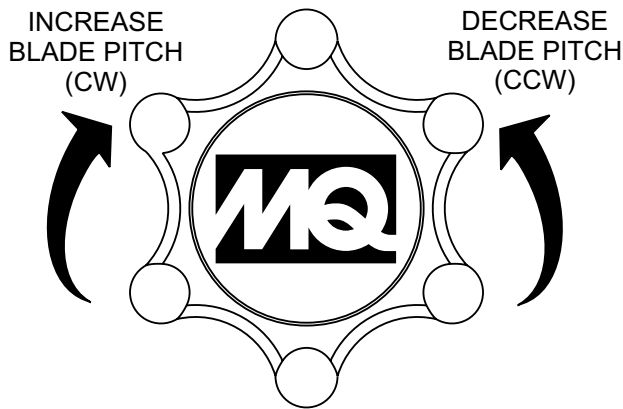

Figure 5. Adjusting Cable Blade Pitch (Standard Handle)
1. For trowels equipped with a **Standard** handle (SXHC), simply turn the **star wheel** counterclockwise to pitch the blades flat. This will release the tension on the blade pitch cable (Figure 5).